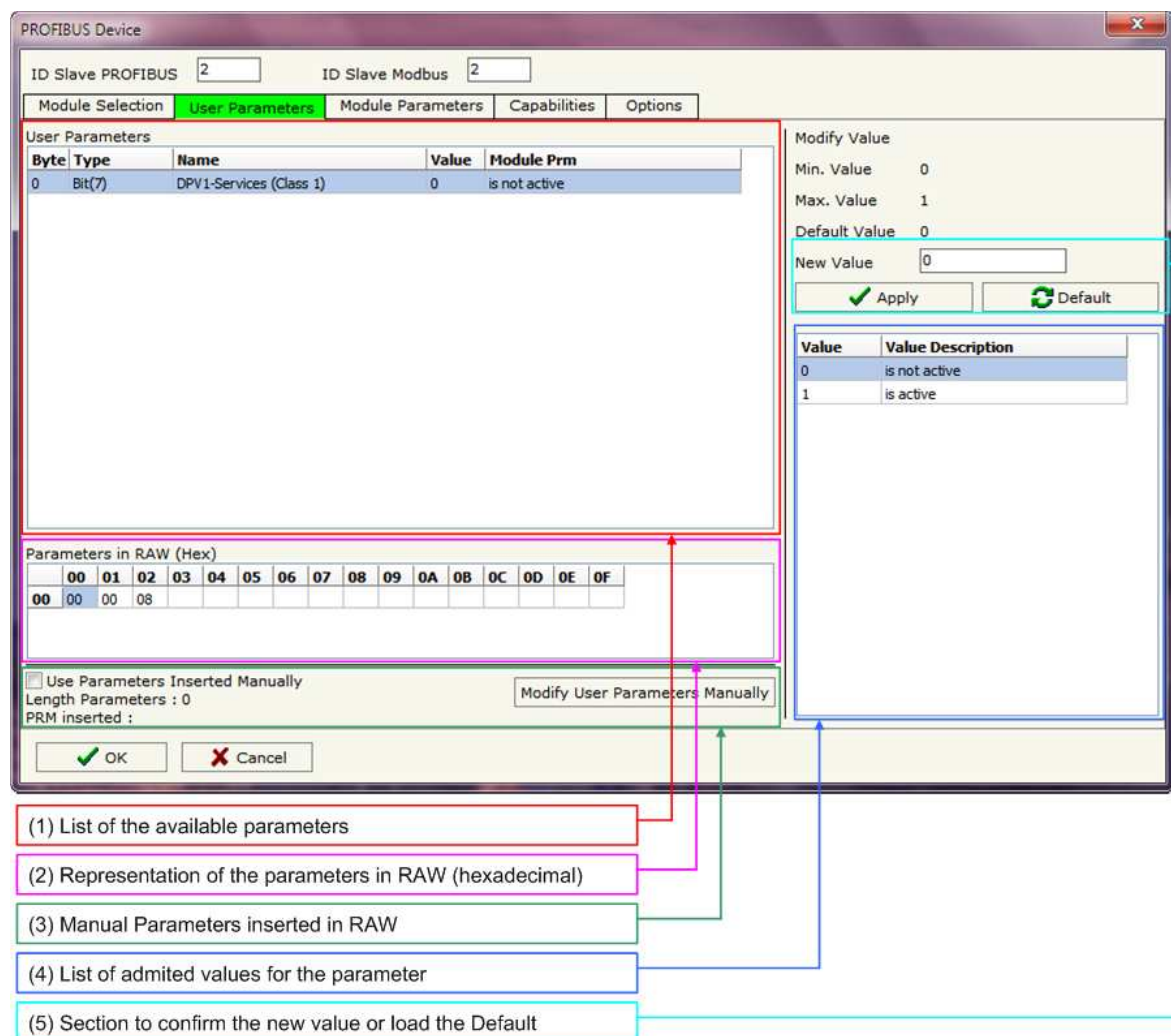

Figure 9: "PROFIBUS Device – User Parameters" window
The section "User Parameters" is used to modify the parameters of the PROFIBUS slave (Fig. 9).
- The List of all Parameters available for the PROFIBUS device ("User Parameters") (Fig. 9, point (1));
- The Configuration of all parameters in RAW ("Parameters in RAW (Hex)") (Fig. 9, point(2));
- The "**Use Parameter Inserted Manually**", enable this option is possible to insert manually the parameters of Device and also of the Modules. Using the "**Modify User Parameters Manually**" button is possible to insert/modify the parametrization of the device (and/or modules). For more info see below. (Fig. 9, point(3));
- The admitted value for the selected parameter. It is possible to select the value desired and confirm it with the "**Apply**" button. If no value appears in this table, the "Min Value" and "Max Value" are the limit of the parameter. (Fig. 9, point(4));
- The "**Apply**" button is used to confirm the new value of the parameter, the "**Default**" button is used to load the factory value for the parameter. In "**New Value**" edit box it is possible to set the new value. (Fig. 9, point(5)).